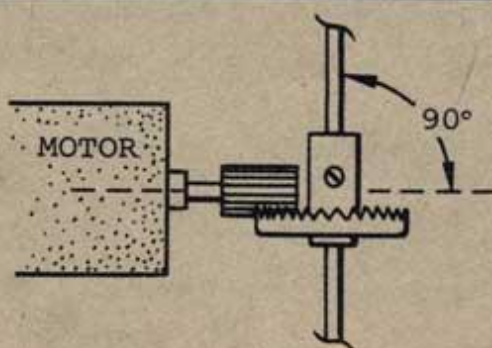

Fig. 2 - Top View
3. The center line of the motor shaft should also intersect the axle at a 90° angle when viewed from the top. (See Figure 2)